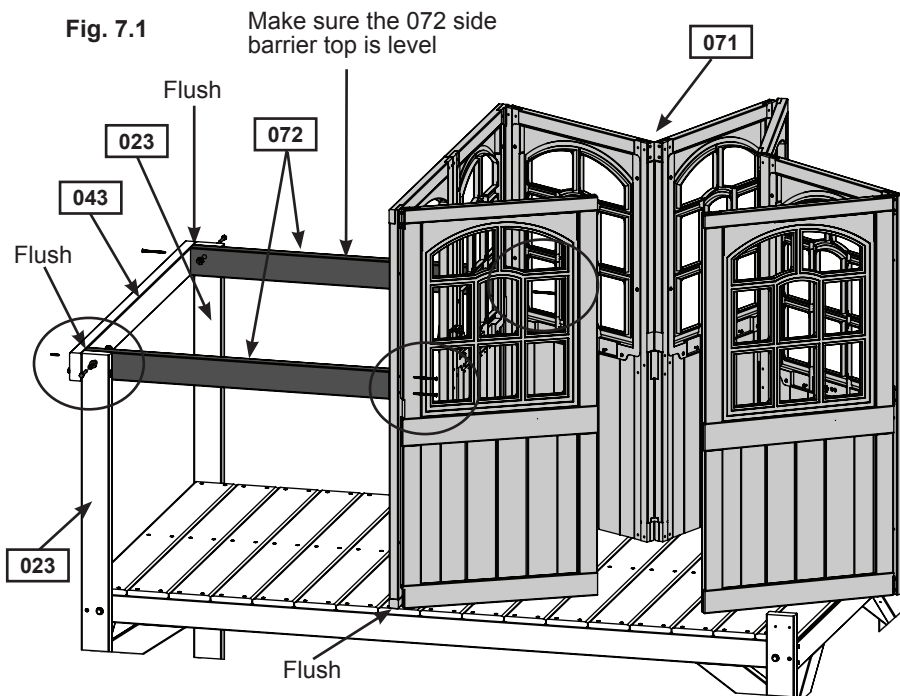
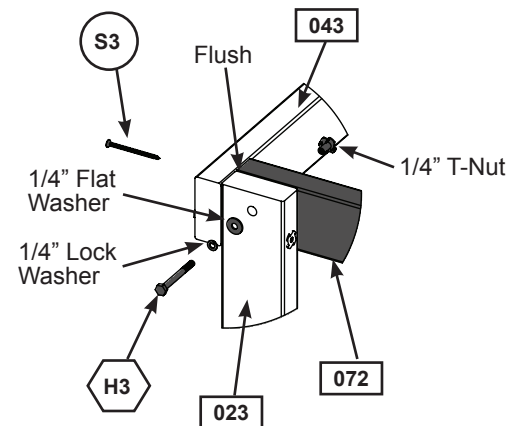

Fig. 7.2
Fig. 7.3
B: On the inside of (023) Upright Long, place 1 (072) Side Barrier Top so that it's tight to (043) SL Barrier and all boards are flush at the top. The other end should be tight to the (071) Panel Assembly (fig. 7.1). Attach (072) Side Barrier to (023) Upright from the outside using 1 (H3) 1/4 x 2 -1/2" Hex Bolt (with lock washer, flat washer and t-nut) and to (043) SL Barrier Top with 1 (S3) #8 x 2 - 1/2" Wood Screw (fig. 7.1 and fig. 7.2). Check that (072) Side Barrier is level then attach other end to (071) Panel Assembly from the inside using 2 (S3) #8 x 2 - 1/2" Wood Screws. (fig. 7.1, fig. 7.3 and fig. 7.4)
C: Repeat Step B to install a second (072) Barrier Top on the Back Wall. (fig. 7.1, fig. 7.2, fig. 7.3 and fig. 7.4)